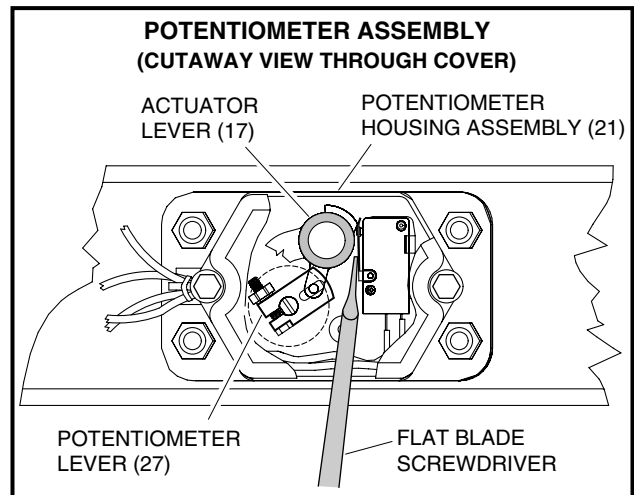

Figure 5-8 Potentiometer Assembly
4. Rotate the potentiometer lever (27) clockwise until lever fork is at the two o'clock position (**Figure 5-8, Page 5-10**). The lever must be at approximately two o'clock in order for it to mate with the alignment pin on the actuator lever.
5. Rotate the actuator lever until its alignment pin is aligned with the slot in the potentiometer lever fork (**Figure 5-8, Page 5-10**), then slide the actuator lever toward the potentiometer housing. **See following CAUTION.**
- **Do not bend the limit switch lever. The cam on the actuator lever should be at the two o'clock position when the actuator lever is in position to mate with the potentiometer lever, allowing the actuator lever to slide past the limit switch lever. It may be necessary to hold the limit switch lever back with a flat blade screwdriver (Figure 5-8, Page 5-10).**